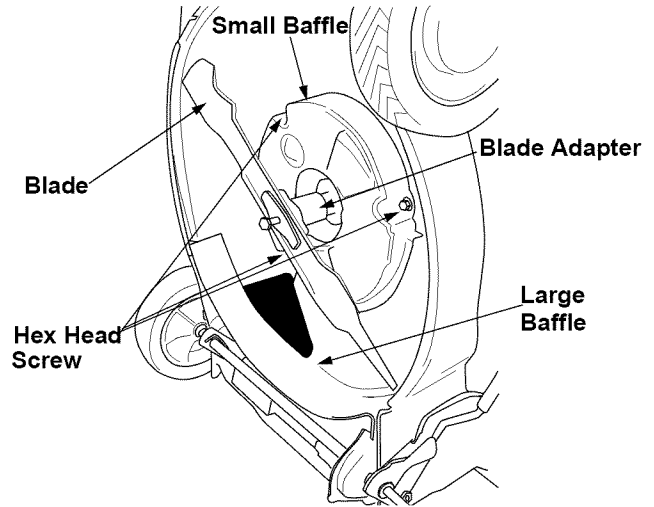

Figure 17
- Remove the blade, blade adapter and related hardware. See Figure 17.
- Remove the three hex head screws holding the small baffle and remove the small baffle. Remove the large baffle as well. See Figure 17.
- Replace the large baffle. Refer to Figure 17.